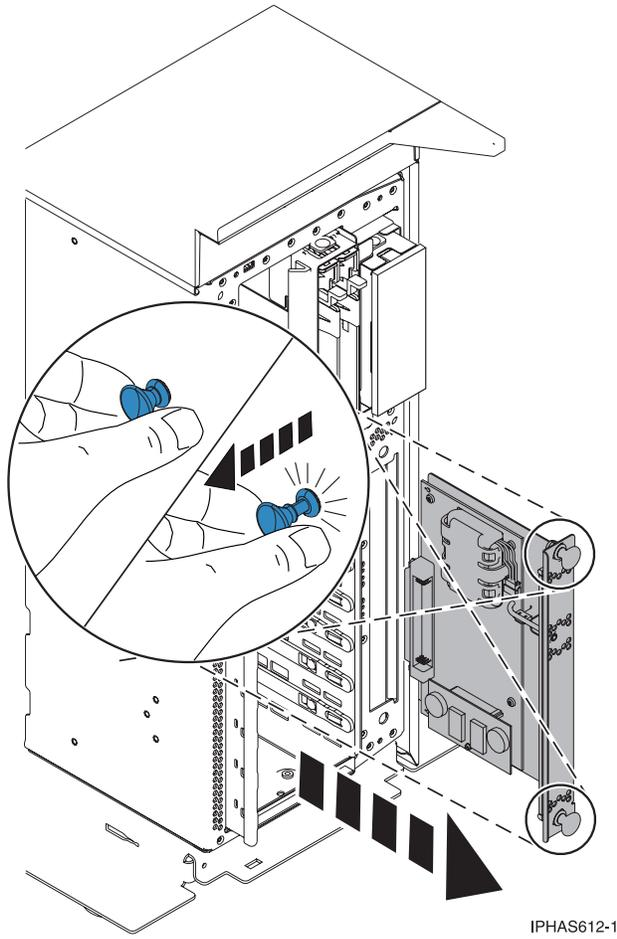
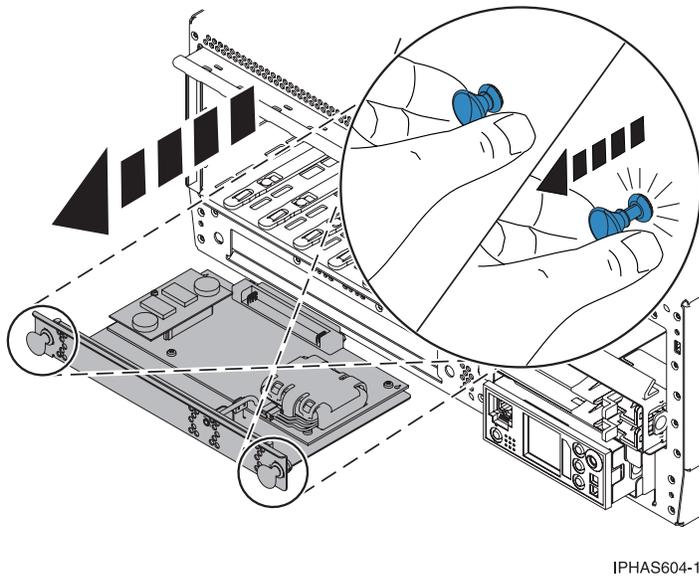

Figure 5. RAID enablement card removal from a stand-alone system unit
Figure 6. RAID enablement card removal from a rack-mounted system unit
3. Slide the RAID enablement card out of the system, as shown in Figure 5 on page 7 or Figure 6 on page 7.